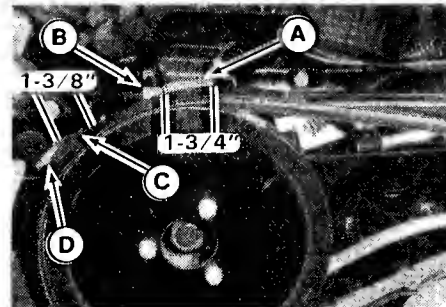

Figure 36. Pulley Brake Adjustment
- The pulley brake return spring (C, figure 36) should be compressed enough so that it measures 1-3/8 inches (35 mm) with the clutch-brake pedal released (up). If it does not, turn the nut (D) to obtain the proper measurement.
- While holding the clutch-brake pedal down fully, measure the length of the rear spring (A) on the pulley brake rod. It should be compressed to 1-3/4 inches (45 mm). If it is not 1-3/4 inches, loosen the adjusting nut (B) and move it forward or back until the proper measurement is